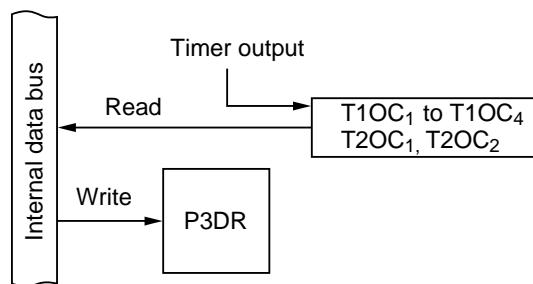

**Figure 10-18 Output Port (Modes 1 to 7)**
**(2) Output Port (Modes 1 to 7):** Figure 10-18 shows a block diagram illustrating the general-purpose output function. Table 10-12 indicates register read/write data. The value written in the port 3 data register (P3DR) is output at the pin. When read, P3DR returns the value written in P3DR.